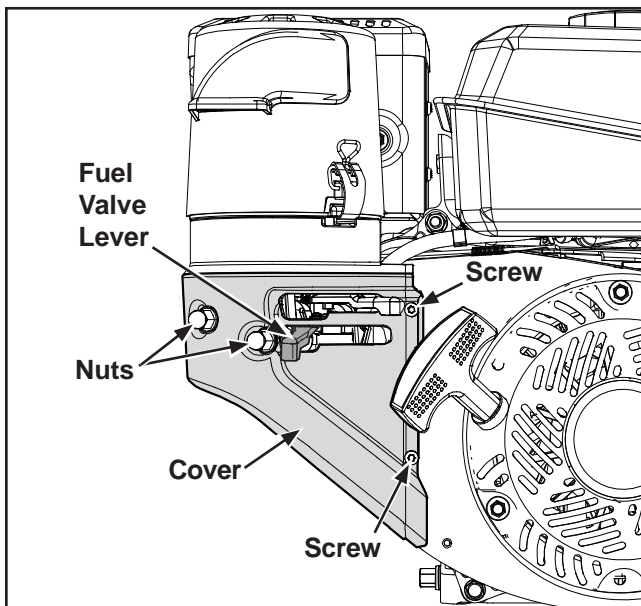

Figure 5-4. Carburetor Cover Panel.
2. Remove the securing hardware and the carburetor cover panel. See Figure 5-4.